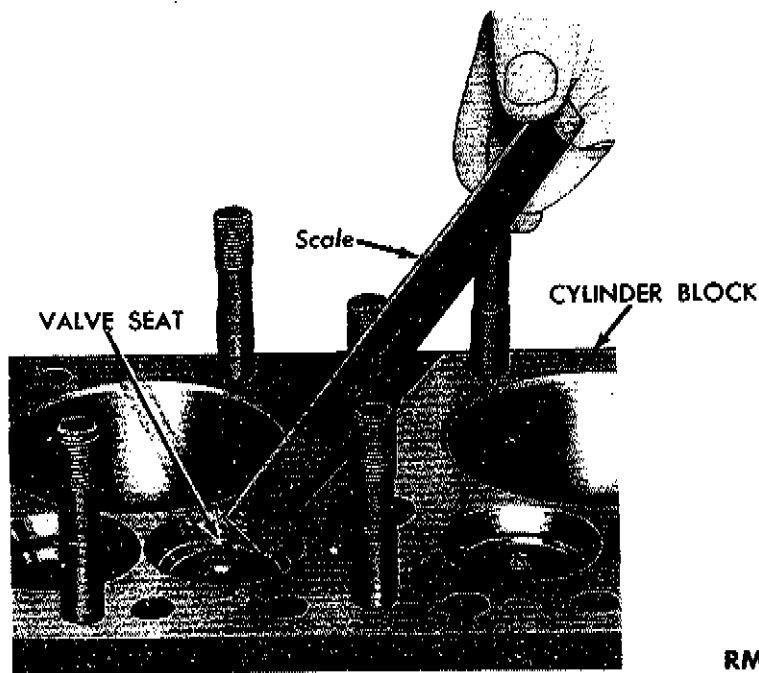

Fig. 16—Measuring Width of Valve Seat
(2) *VALVE SEATS*. Replace any valve seat insert that is cracked or that is loose in the cylinder block (par. f below). Reface valve seats where there is any indication that the valve has not been seating, if new guides are to be installed, or if the width of the seat (fig. 16) measures more than 0.125 inch (par. e below).
e. **Valve Seat Refacing.** Reface each valve seat with a 90 degree (included angle) valve seat grinding wheel or valve seat cutter until the face of the seat is "cleaned up" and free from pits or nicks. If a valve seat cutter is used, it will be necessary to lap the valves into the seat. The time ordinarily required to lap the valves is saved by using an eccentric type valve seat grinder with which the grinding wheel contacts only one portion of the seat at any given time. If the grinder, including the pilot, is in good condition and the grinding wheel is kept sharp and properly dressed, it ordinarily is not necessary to lap the valves into the seats. After refacing, the width of the valve seat should not be more than 0.125 inch, measured across the face of the seat (fig. 16). If the seat is too wide, remove just enough stock from the top and/or bottom of the seat to reduce the width to 0.062 inch. Use a 120 degree (included angle) valve seat cutter for removing stock from the top of the seat and a 60 degree (included angle) cutter for removing stock from the bottom of the seat.